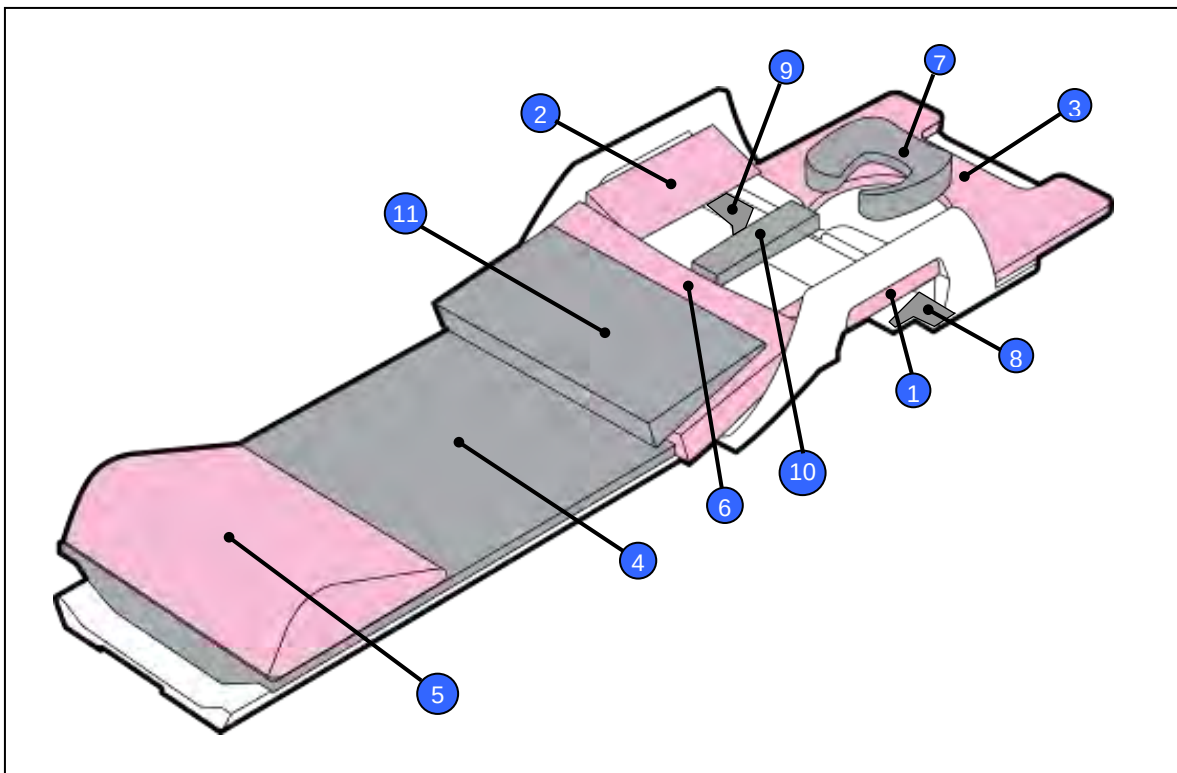

Figure 4
*Padding Kit (Figure 4) shown installed on Patient Support.